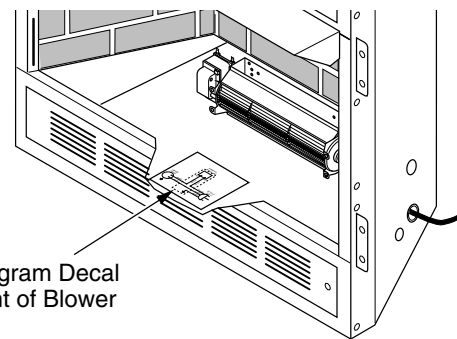

Figure 27 - Location of Wiring Diagram Decal (Model May Vary From Illustration)
10. Peel off the backing paper and stick the supplied wiring diagram decal on the firebox bottom approximately 12" in front of the blower (see Figure 27).
11. Peel off the backing paper and stick the supplied wiring diagram on the firebox bottom approximately 12" in front of the blower (see Figure 27, page 17).